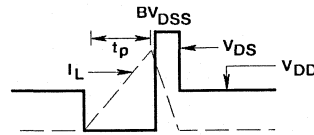

Fig. 15 - Unclamped energy waveforms.
4. $V_{DD} = 50\text{V}$, starting $T_J = +25^\circ\text{C}$, $L = 1.1\text{mH}$, $R_{GS} = 50\Omega$, $I_{PEAK} = 33\text{A}$. See Figure 15.